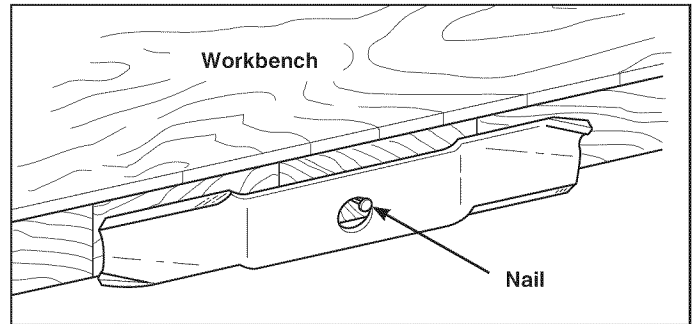
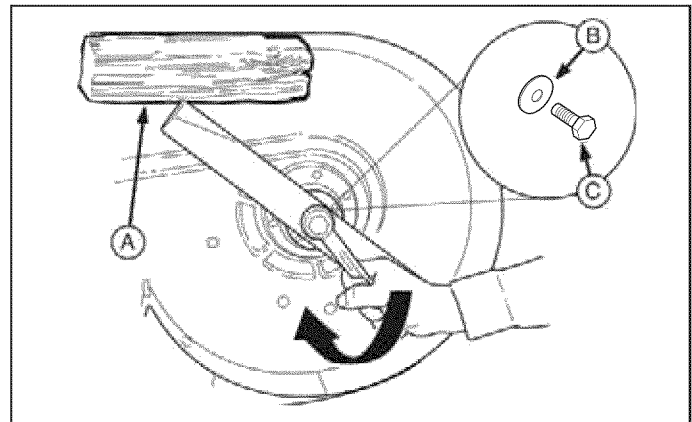

Figure 27. Balancing the Blade
Figure 28. Blade Installation
2. To remove blade for sharpening, use a block of wood (A, Figure 28) to prevent blade rotation while loosening the hardware.
3. Remove the bolt (C), blade washer (B), and blade.
5. Balance the blade as shown in Figure 27. Center the blade's hole on a nail lubricated with a drop of oil. A balanced blade will remain level.
6. Reinstall the blade (Figure 28) with the tabs pointing up toward the mower deck as shown.
7. Reinstall the blade washer (B, Figure 28), concave side up, and bolt (C). Use a wooden block (A) to prevent blade rotation while tightening the hardware. Torque hardware to 50-60 ft-lbs (68-81 Nm).